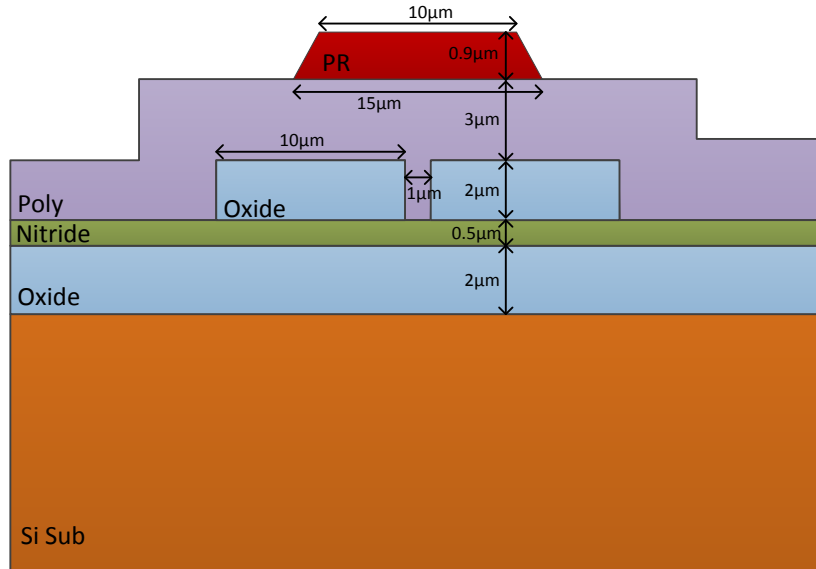
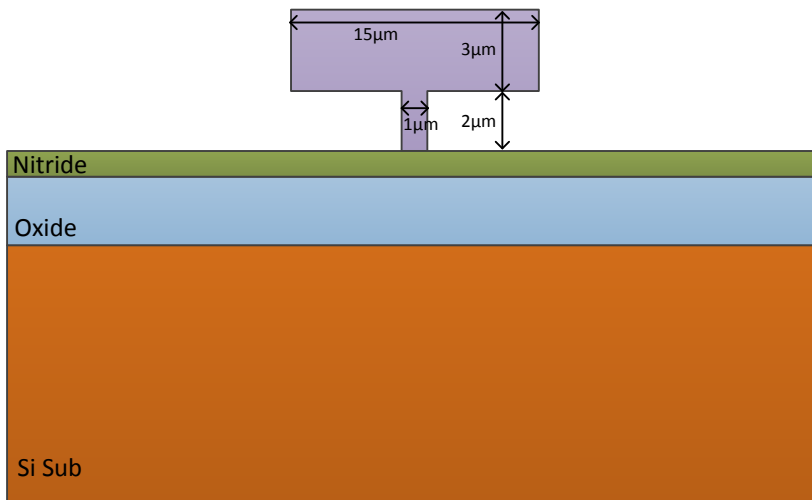

Figure PS3.2-1
Figure PS3.2-2
2. You are given a wafer with the cross-section shown in Figure PS3.2-1 and *intend* to pattern and release the structure to leave only the polysilicon structure atop the blanket nitride/oxide layer as shown in Figure PS3.2-2. To perform the release, you first dry etch the polysilicon in an RIE system with etch rate and selectivity given in Table 2.5-1. You then wet etch the oxide layer in a completely isotropic etchant with characteristics given in Table 2.5-2. (Note that you intend to achieve the structure of Figure PS3.2-2, but whether or not you actually can depends on the process.)